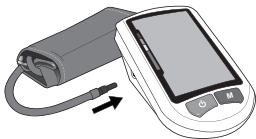

Fig. 1
2. Insert the cuff tubing connector into the port on the left side of your monitor, Fig 1.